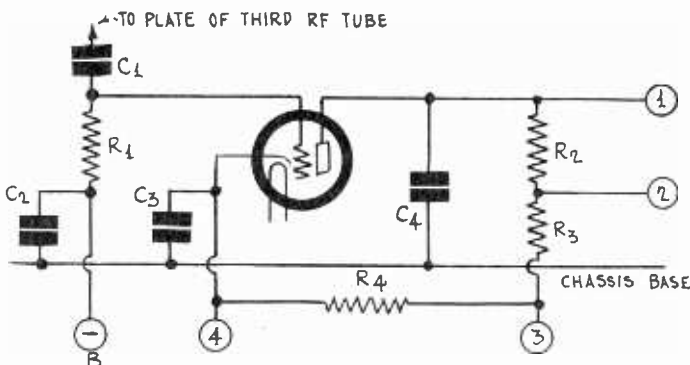

FIG. 2
In Fig. 2 is a different version of an automatic sensitivity control, and is a simplified diagram of that used in the new Stromberg-Carlson models 12 and 14. In this the control tube is a 227, the grid of which is connected through a 0.0001 mfd. condenser to the plate of the third radio frequency tube, which is a 224 screen grid tube. The grid return is connected to B minus, the most negative point in the circuit, and the cathode (4) is connected to a point on the voltage divider which is positive with respect to B minus but negative with respect to ground. The voltage between B minus and (4) in Fig. 2 is the steady bias on the control tube which makes it a grid bias, or plate bend detector.
LIST OF PARTS FOR FIG. 2
LIST OF CONNECTIONS FOR FIG. 2
- (1)—To the grid return of the first radio frequency amplifier tube.
- (2)—To the grid return of the second radio frequency amplifier tube.
- (3)—To a point on the voltage divider 3 volts negative with respect to the chassis and the ground. The resistance between (3) and ground is 100 ohms and is in the main voltage divider.
- (4)—To a point 1,210 ohms below (3) on the main voltage divider.
- (B—)—The negative side of the B supply circuit, which is separated from (4) by 260 ohms.
In order to show more clearly the connections of the sensitivity control tube to the voltage divider in Fig. 2, next week Fig. 4 will show the B supply used in the receiver, stripped of that part which is used exclusively to supply the field current for the dynamic speaker. The various taps on the voltage divider, (B—), (3) and (4) are marked to correspond in the two drawings.